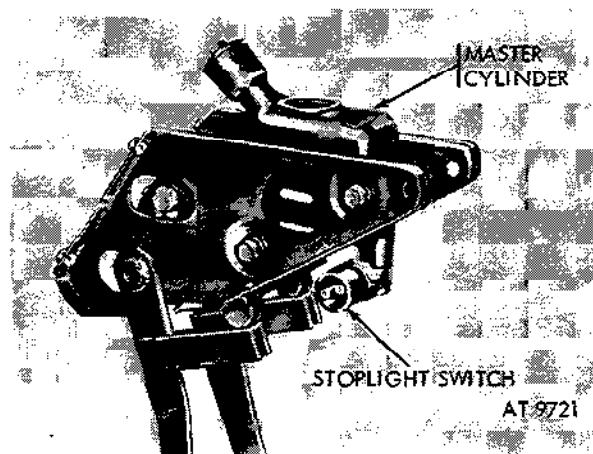

Figure 2-282. Remove stoplight switch.
(2) Unscrew stoplight switch from brake master cylinder (fig. 2-282).